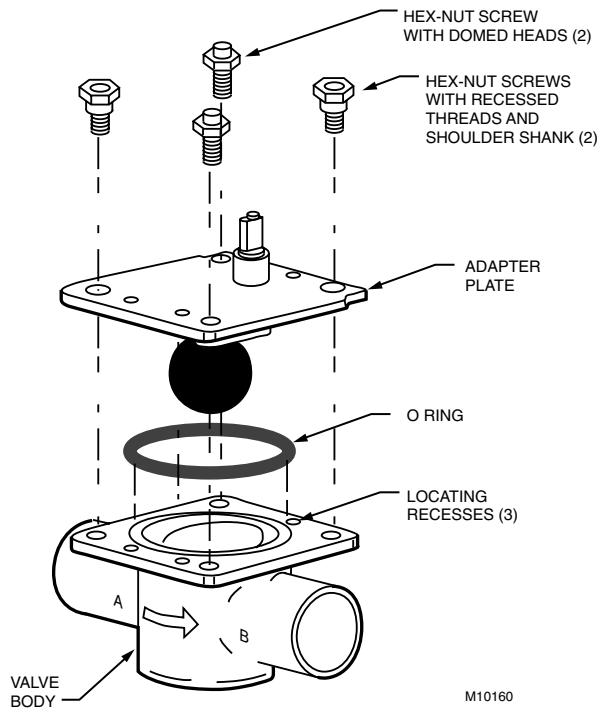

Fig. 11. Install 40003918 Conversion Kit.
- ⑤ Install 40003918 Conversion Kit (Fig. 11):